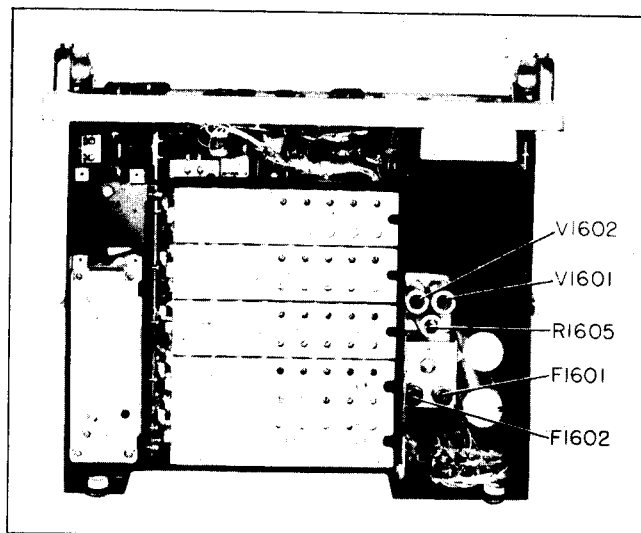

Figure 5-1. Power Supply, Bottom View
(1) SYMPTOMS OF FUSE FAILURE.—Dial light and PILOT light will be out. Receiver will be inoperative.
(2) FUSE LOCATION.—The two 1-ampere Slo-Blo used in the power supply are located on the power supply chassis toward the rear. This unit is accessible from the bottom of the main chassis (see figure 5-1).
(1) SYMPTOMS OF TUBE FAILURE.—If rectifier tubes in the power supply are faulty, the dial light will be lit, but the PILOT light will be out, and the receiver inoperative.
(2) ELECTRON TUBE LOCATION.—The two high voltage rectifier tubes and ballast resistor are mounted on the power supply (see figure 5-1).
(3) LOCATING AND REPLACING RECTIFIER TUBES AND BALLAST RESISTOR.—Slide the chassis out of the housing and connect the jumper cable between the socket mounted at the rear of the chassis, and the socket on the filter assembly which is located on the back wall of the cabinet.
Turn the receiver to ON and allow about 30 seconds for the tubes to warm up. The rectifier tube or tubes (V1601 and V1602) in the power supply that fail to glow should be replaced, and the ballast resistor (R1605) should be replaced if it fails to glow with a dull red. TURN RECEIVER OFF BEFORE REPLACING ANY OF THESE TUBES. (see figure 5-1).